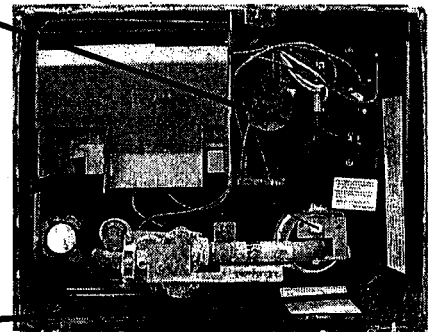

Fig.1
1. Open the outside water heater door and locate the identification plate. (Fig. 1)
2. Verify the unit has a model GC6AA10E water heater. (Fig. 1) If not, stop and submit a claim for inspection only. If equipped with the model affected, continue to the following steps.